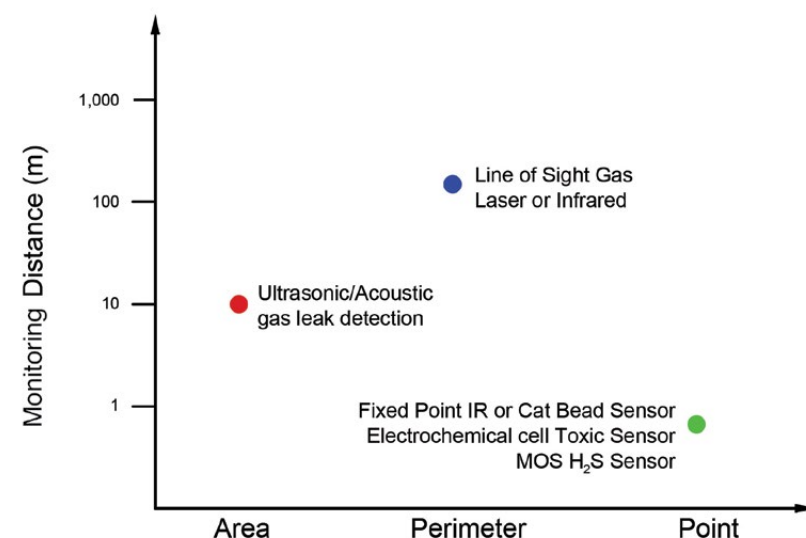

Figure 3. Each gas sensing technology provides a different coverage area.
example, point detectors monitor a specific area, and perimeter monitors sense gas clouds along a fixed line of sight or path (Figure 3). Catalytic bead, point infrared (IR) and electrochemical sensors are all designed for point monitoring while ultrasonic acoustic gas detectors provide area and zone monitoring. Open-path IR or laser-based open-path systems are used in perimeter gas monitoring applications.